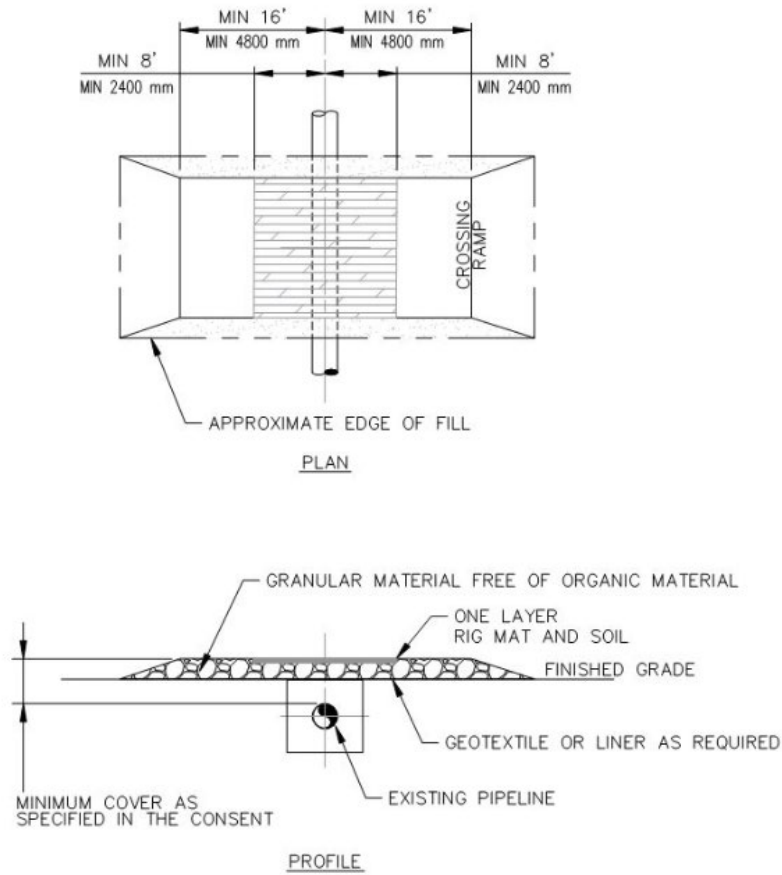

Figure 6: Crossing Ramp with Mats – Typical Drawing
- crossing ramp with mats (see Figure 6: Crossing Ramp with Mats – Typical Drawing)